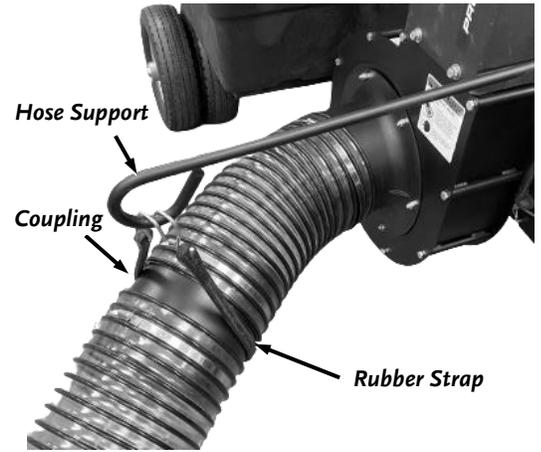

Figure 74
1. Remove the Rubber Strap from the Hose Support (**Figure 74**).